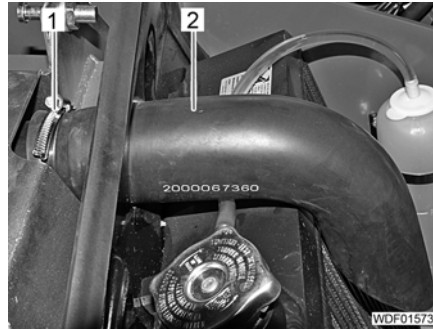

Fig. 167 Intake hose
- Slacken hose clamp (Fig. 167,1).
- Remove intake hose (Fig. 167,2).
- Attach new intake hose (Fig. 167,2) with hose clamp to the connection on the air filter case.
- Tighten hose clamp (Fig. 167,1).